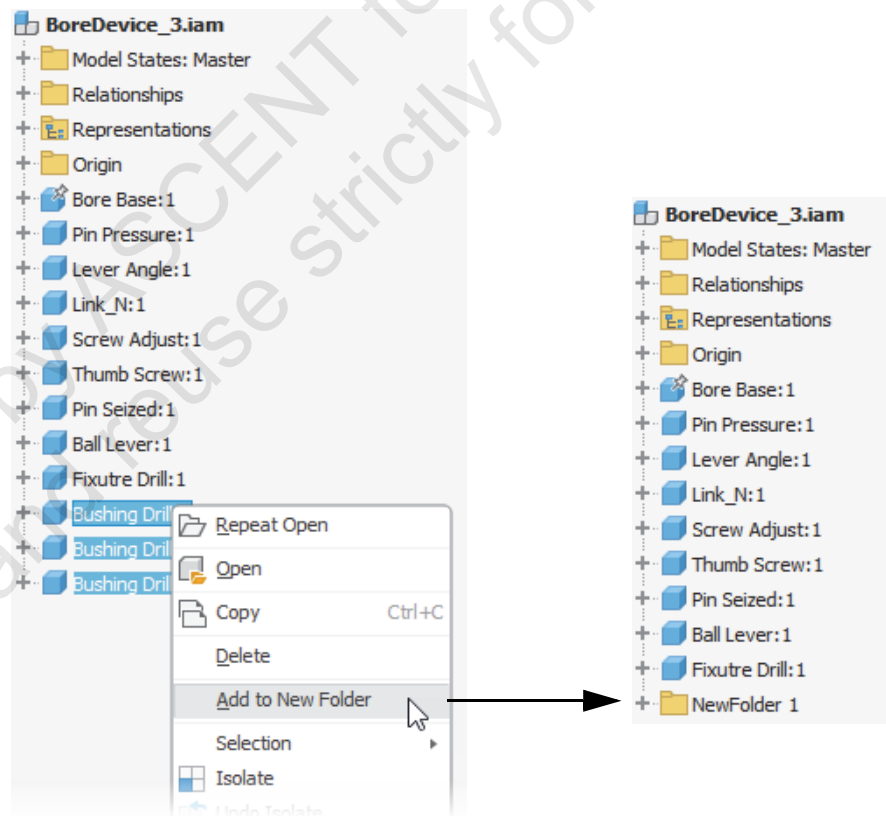

Figure 1–8
- Right-click on the component(s) you want to add to the folder and select **Add to New Folder**, as shown in Figure 1–8.